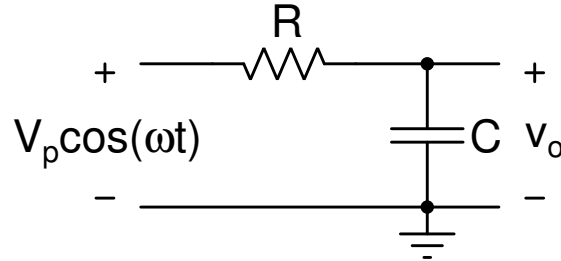

Figure 3.1: Problem 3.1.
3.1. The filter in Fig. 3.1 is driven by a sinusoid at $\omega = 1/RC$. Determine the following: